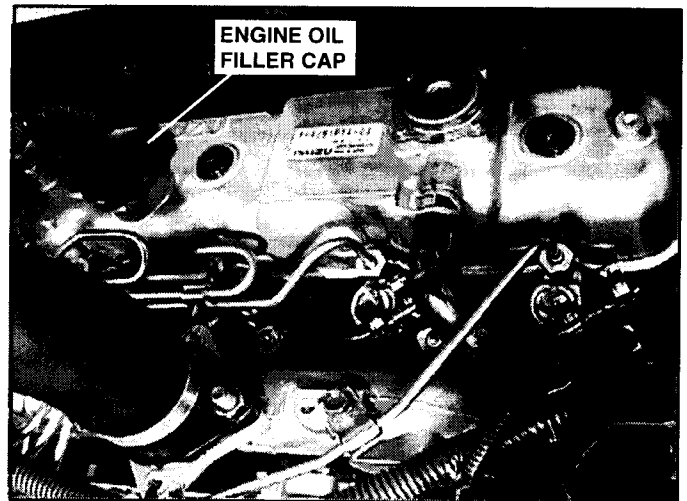

FIGURE 4.61
3. Raise engine bonnet and remove oil filler cap. See Figure 4.61.